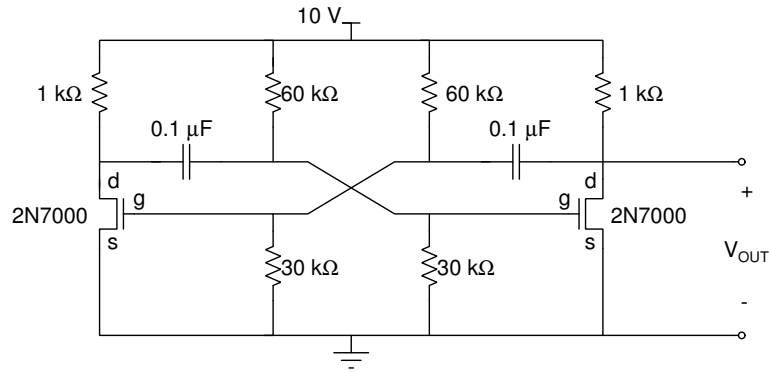
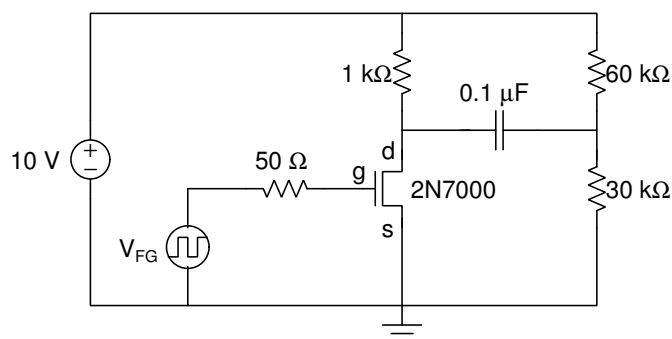

Figure 2: Astable multivibrator circuit of Figure 1 with 2N7000 transistors used as voltage-controlled switches.
Figure 3: Multivibrator half-circuit.
4. Use NGSpice to analyze the operation of this circuit. Replace the ideal switches with 2N7000 NMOS transistors as shown in Figure 2. The NMOS transistor acts as a voltage controlled switch. In a NMOS transistor, current only flows between the drain (D) terminal and the source (S) terminal. When the voltage (V_{GS}) between the gate (G) and the source (S) is greater than the threshold voltage (V_t), the D and S terminals are shorted; when $V_{GS} < V_t$, the D and S terminals are open.
1. Build the multivibrator half-circuit circuit shown in Figure 3.
2. Set the function generator to produce a triangular wave with a voltage from 0 to 5 volts and a frequency equal to that found in step 5 of the Pre Lab. Use the scope to watch the voltage at the gate (G) and the drain (D) of the 2N7000 transistor. Determine the gate voltage that causes the transistor to turn-on and off. Try and find two transistors that have approximately the same switching voltage.
3. Build the full astable multivibrator circuit shown in Figure 2. This circuit should oscillate when power is supplied.